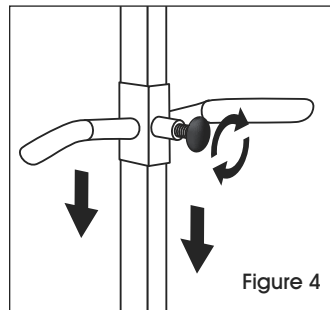

Figure 4
1. Slide steering handle over main post. (See Figure 4)